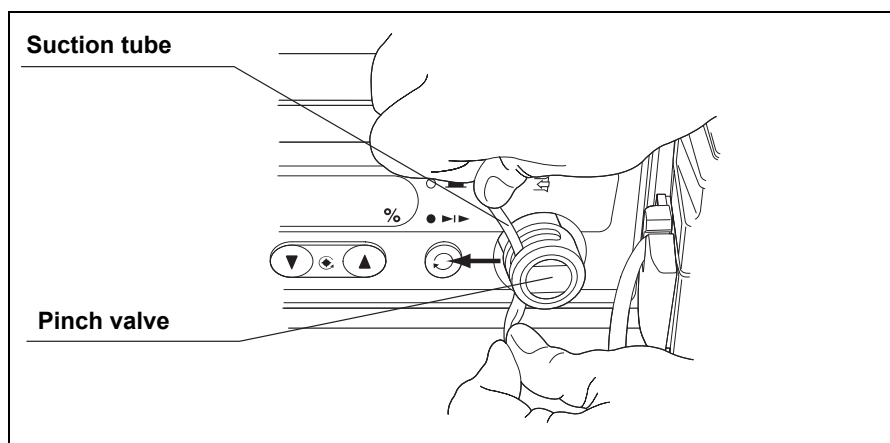

Figure 7.6
5. Detach the suction tube from the pinch valve (see Figure 7.6).